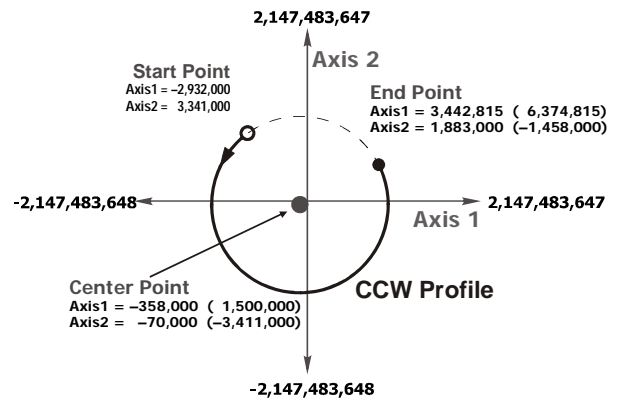

Figure R4.4 Center Point Circular Move
For non-interpolated, single axis moves, the terms “clockwise” and “counter-clockwise” refer to whether or not the Motor Position value reported back to the FC6A will increase or decrease as a result of the move. (Clockwise moves increase the Motor Position Value.) For Circular Interpolated Moves, the terms “clockwise” and “counter-clockwise” refer to the direction of travel when looking down at the X-Y plane. For example, figure R4.4 below shows a counter-clockwise move.
The Center Point method is shown in figure R4.4. In addition to the End Point, this method defines the Center Point of the circle. The IANF2(E) verifies that the length from the Center Point to the Start Point is equal to the length from the Center Point to the End Point before running the profile. **Both lengths are radii of the circle and must be equal.**